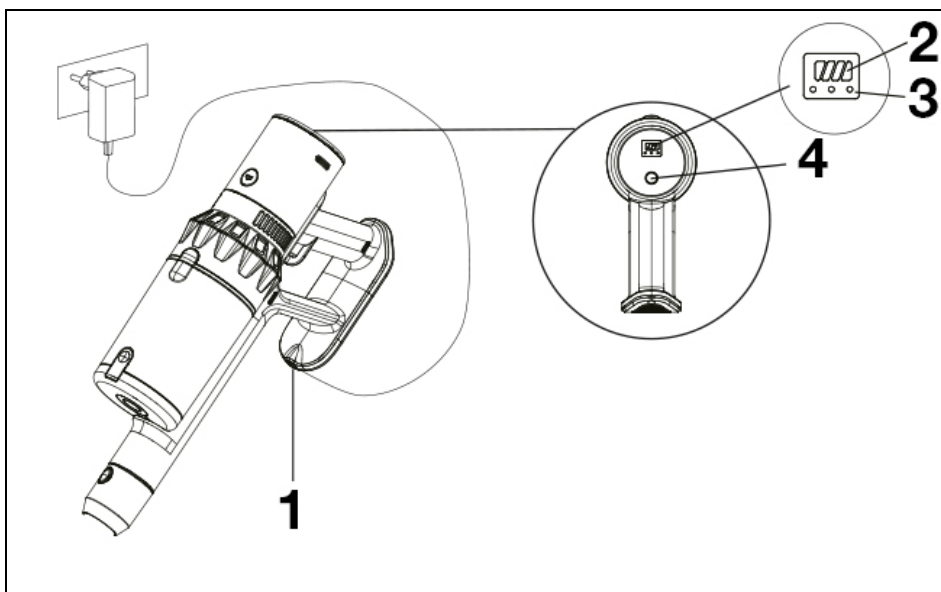

Figure 3
If the last LED of the display (2) - Fig. 3 flashes green, this means that the power supply is insufficient and the vacuum cleaner needs to be charged. Connect the charger to the power supply and to the charging port (1) - Fig. 3. It charges while the four indicator lights flash green. If the four indicator lights (2) - Fig. 3 - are still green, the battery is fully charged.